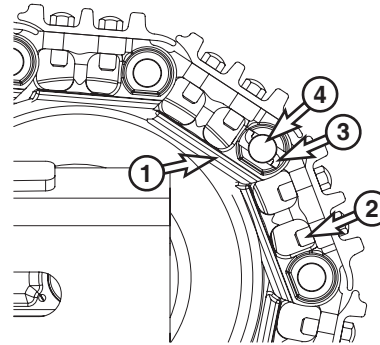

Figure 8
3. Move machine until master link (1, Figure 8) is positioned at approximately 10 o'clock from top position on front idle roller.
4. Remove four nuts and bolts (2, Figure 8) holding shoe to link. Remove enough shoes to make access to lock pin easier.
NOTE: *Support track shoes with blocking so that when master pin (4, Figure 8) is removed track will not fall.*
5. Straighten lock pin (3, Figure 8) and remove it from master pin (4). Discard lock pin.